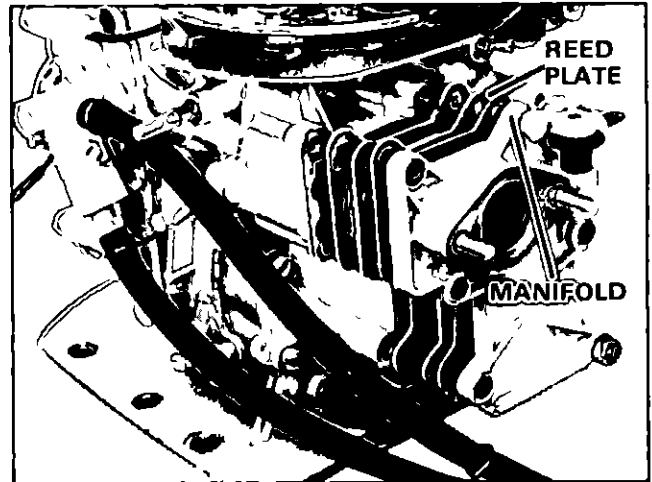

Figure 31. Removing Manifold and Reed Valve Assembly.
- 3 Remove six (6) screws securing manifold and reed plate to crankcase cover. Figure 31